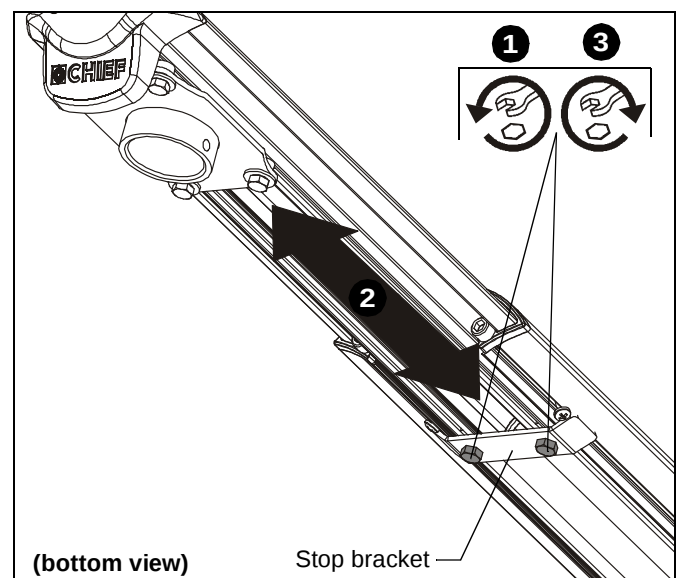

Figure 21
1. Loosen two bolts holding stop bracket in place on underside of WMA1S. (See Figure 21)
2. Adjust mount to desired extension length. (See Figure 21)
3. Tighten two bolts holding stop bracket to secure mount in desired position. (See Figure 21)